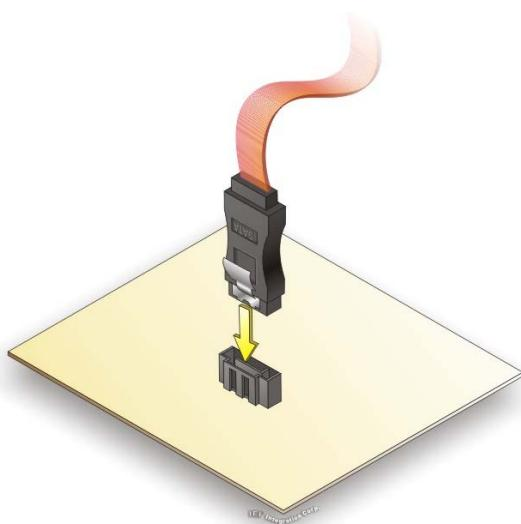

Figure 4-9: SATA Drive Cable Connection
Step 2: Insert the cable connector into the on-board SATA drive connector. See Figure 4-9.